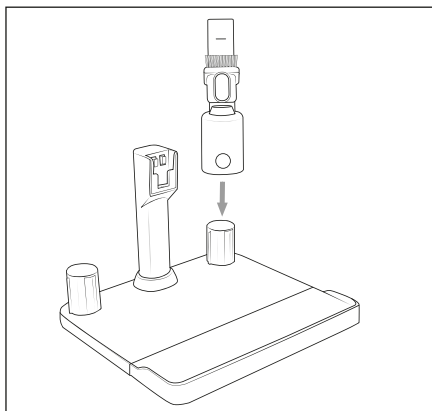

Fig. 13
- ◆ If necessary, remove the 2-in-1 combination brush **13** from the appliance and attach it to the accessories holder **16** for storage (see Fig. 13).